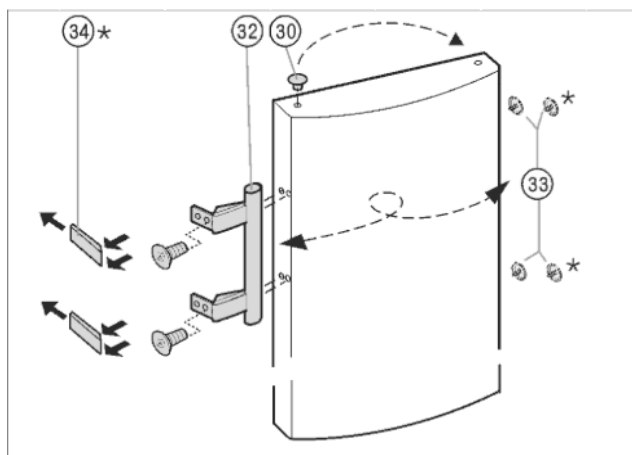

Fig. 10
- ▶ Lift the stopper Fig. 10 (30) out of the door bearing bush and transfer it.
- ▶ Dismantle the door handle Fig. 10 (32), stoppers Fig. 10 (33) and pressure plates* Fig. 10 (34) and transfer to the opposite side.